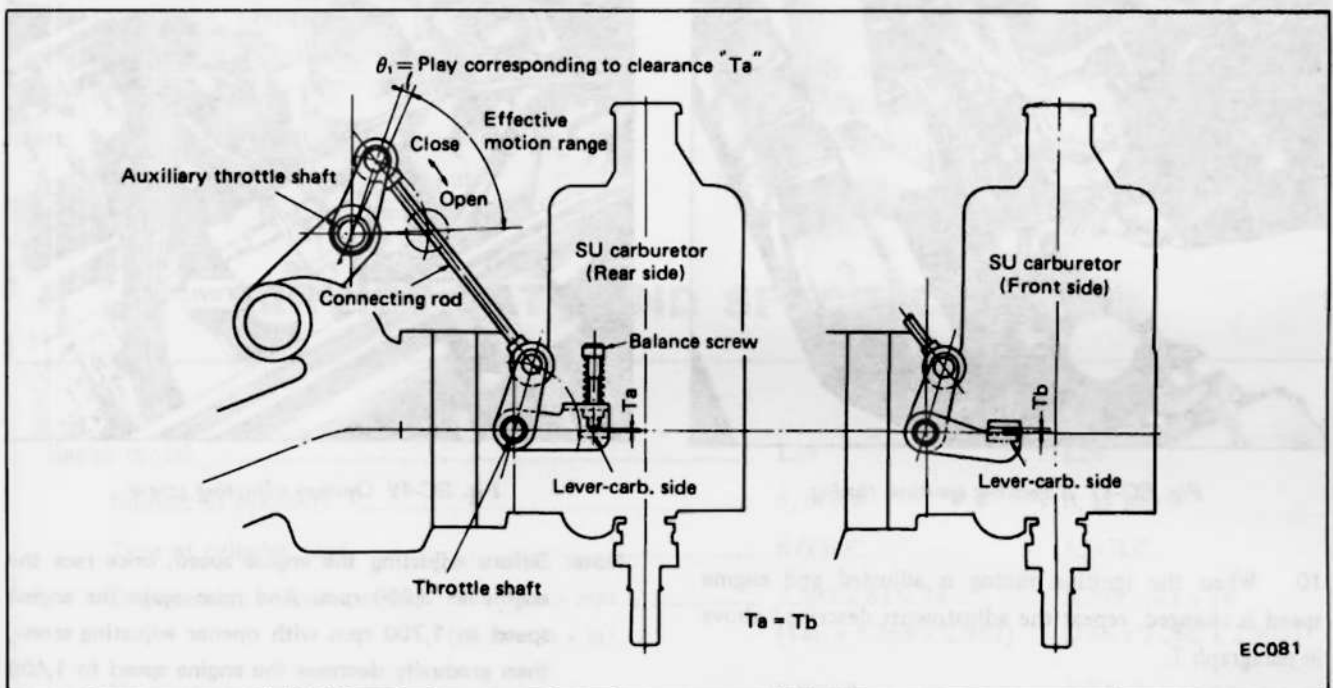

Fig. EC-45 Adjusting idle speed and mixture
d. When the throttle adjusting screw is returned during the above adjustment and engine speed cannot be reduced below 750 rpm, other adjusting screws such as opener adjusting screw ⑬ and balance screw ⑭ must have been tightened excessively or the accelerator linkage must have been adjusted incorrectly. Under the normal condition, the auxiliary throttle shaft ⑧ and throttle shaft ⑪ should have a slight play during engine operation under the idling speed. In other words, the auxiliary throttle shaft ⑧ should be provided with a play "L" which corresponds to the clearance Ta - Tb as shown in Figure EC-45.